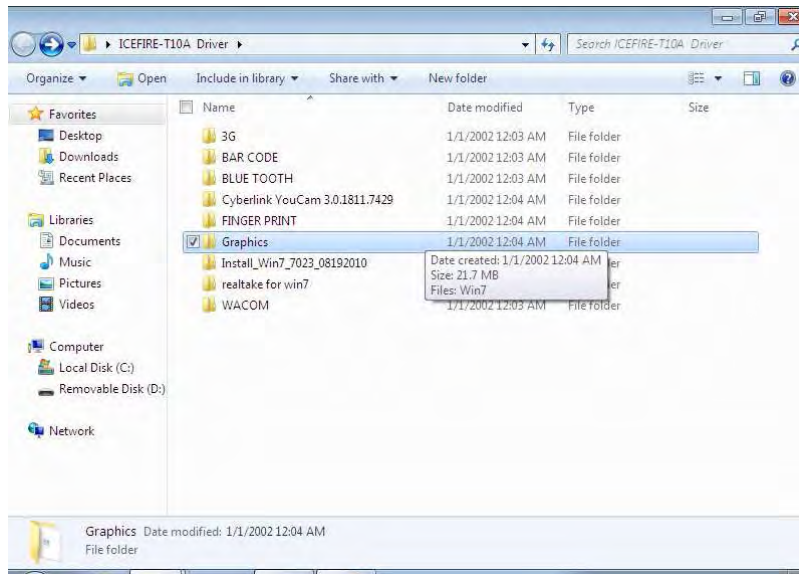

Figure 4-1: Graphics Driver Location
Step 1: Select **Graphics** from the list in Figure 4-1.